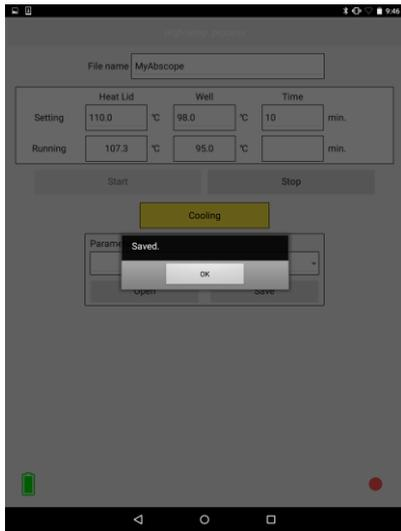

Figure 3-9: Indication of Saved state
- (9) After the preset time has elapsed, you will be informed that the data is saved as shown in Figure 3-9 on the next page. Then tap “OK.” The preset conditions are saved in the CSV format (with the file name entered in the input field (1) on the high-temperature treatment process screen, which is suffixed with “_yymmddhhmmss.csv” (see “5. Data Analysis,” (CSV file)). Three seconds after the preset time has elapsed, the cooling fan starts to operate, and the status indication changes to “Cooling” as shown in Figure 3-10. When both the HeatLid temperature and Well temperature have fallen below 35°C (within about 10 minutes or less), cooling is finished, and the status indication changes to “Ready” as shown in Figure 3-11. Confirm that the temperatures have fallen on the tablet screen.
If you tap “Yes,” you will be informed that the data is saved as shown in Figure 3-9. Then tap “OK.” The preset conditions are saved in the CSV format (with the file name entered in the input field (1) on the high-temperature process screen, which is suffixed with “_yymmddhmmss.csv.” Three seconds after you tap “Yes,” the cooling fan starts to operate and the status indication changes to “Cooling” as shown in Figure 3-10. When both the HeatLid temperature and Well temperature have fallen below 35°C, the status indication changes to “Ready” as shown in Figure 3-11.